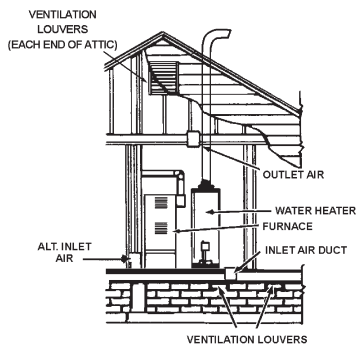

FIGURE 7.
B. ALL AIR FROM OUTDOORS: (See Figures 7, 8 and 9)
1. When directly communicating with the outdoors, each opening shall have a minimum free area of 1 square inch per 4,000 Btu per hour ($5.5 \text{ cm}^2/\text{kW}$) of total input rating of all equipment in the enclosure, see Figure 7.